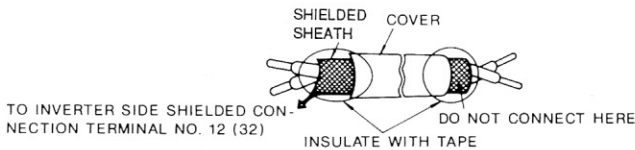

Fig. 3 Preparation of Shielded Cable Ends
- (1) Separate AO-08 control signal wiring (terminals TD1 to TD3) from main circuit wiring or other power lines.
- (2) Use shielded cable for control signal wiring and prepare the ends as shown in Fig. 3 to prevent malfunctions caused by noise. Wiring length must be 50 m or less.